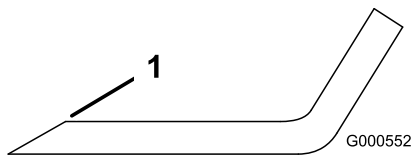

Figure 61
- Use a file to sharpen the cutting edge at both ends of the blade (Figure 61).
**Note:** If the blade is not balanced, file some metal off the end of the sail area only (Figure 61).